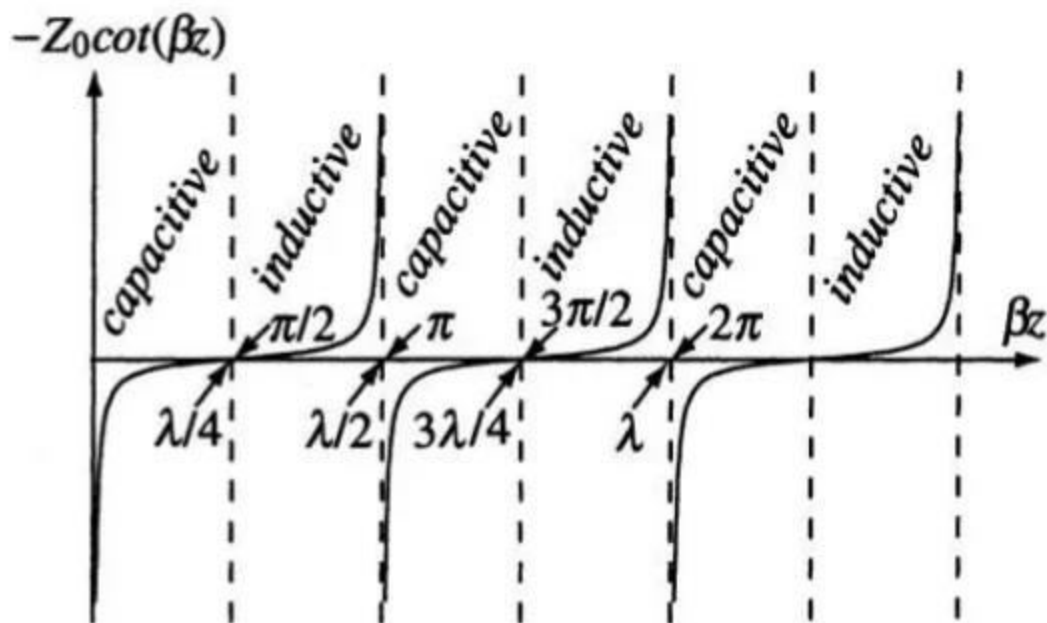

FIGURE 14.21 Line impedance on an open transmission line.
- (1) $\Gamma_L = +1$, $\text{SWR} = \infty$.
- (2) The line impedance is infinite at the load and at any value $\beta z = n\pi$, $n = 1, 2, \dots$. In terms of wavelength, the line impedance is infinite at $z = n\lambda/2$, $n = 0, 1, 2, \dots$. The line impedance is zero at $z = \lambda/4 + n\lambda/2$, $n = 0, 1, 2, \dots$.
- (3) The line impedance is purely imaginary and alternates between positive and negative values, as shown in **Figure 14.21**. The impedance is negative (capacitive) for $n\lambda/2 < z < n\lambda/2 + \lambda/4$ and positive (inductive) between $n\lambda/2 + \lambda/4 < z < n\lambda/2 + \lambda/2$, $n = 0, 1, 2, \dots$. The line impedance changes from $+\infty$ to $-\infty$ at $z = n\lambda/2$.
- (4) An open transmission line behaves as an inductor or a capacitor, depending on the location on the line. A capacitance or an inductance may be designed by simply cutting a line of appropriate length. Open transmission lines may also be viewed as circuit elements.